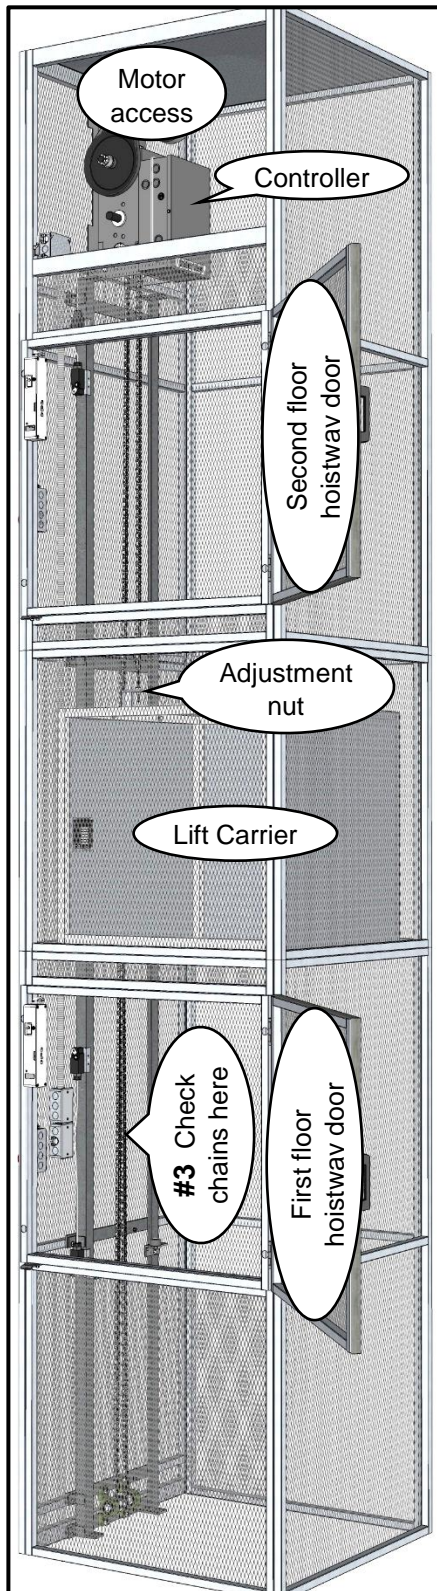

Figure 14
- 3** Verify that both the front and back chains are taught. (see Figure 14) If there is any slop in the chain continue on to the next step. If the chains are both taught go on to **Step 8**.